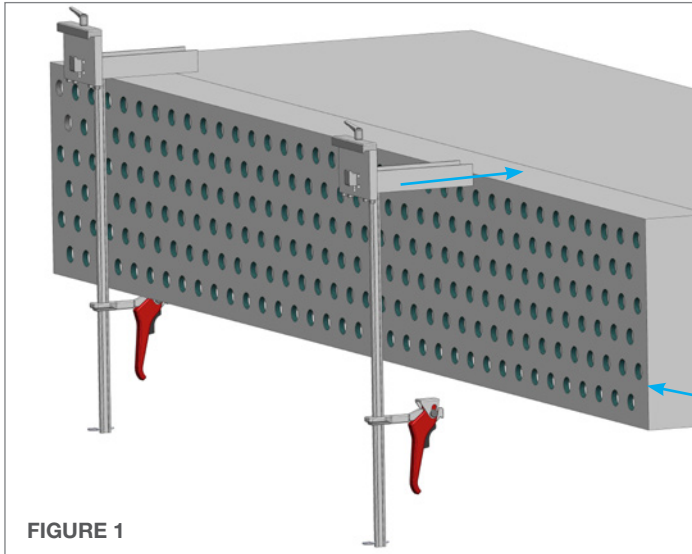

FIGURE 1
1. Mount the **Fin Fan Clamp Assemblies** to the tube bundle as shown. The Clamps should be as square to the bundle as possible. Ratchet the red Handle Assembly until tight. **(Figure 1)**